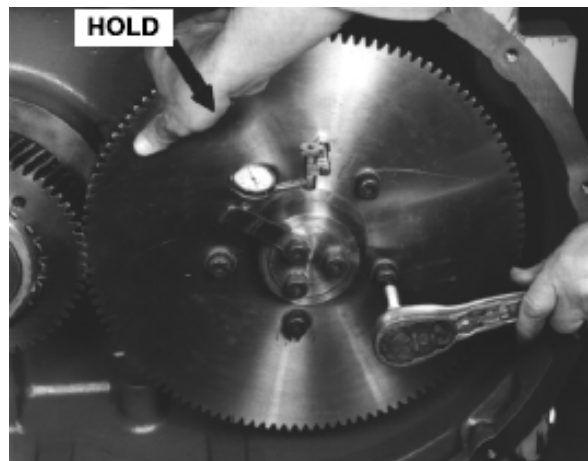

FIGURE 7-32 – FASTENER TORQUE VALUES
32. Hold the gear and shaft from turning and evenly tighten four gear to hub “Nylok” screws (69) (FIGURE 7-32). Be sure the indicator reading does not change while tightening the screws. The rotors are held in time by the clamping action of the screws and distortion of the flat washers into the gear holes. Tighten screws securely. Check interlobe clearance to make sure the $\frac{2}{3}$ indicator reading is on the discharge side.